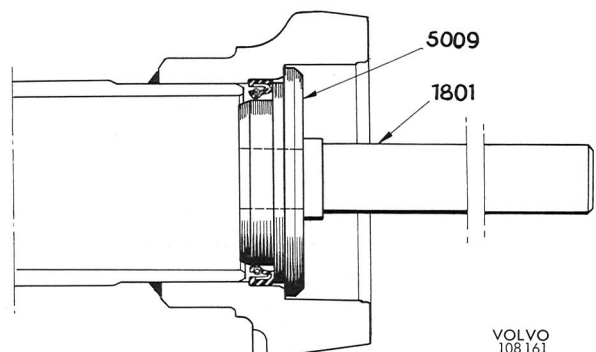

Fig. 4-147. Inner seal installation
7. Install the inner seal ring with drift 5009 and handle 1801. The drift will automatically accomplish correct seal installation, see Fig. 4-147.